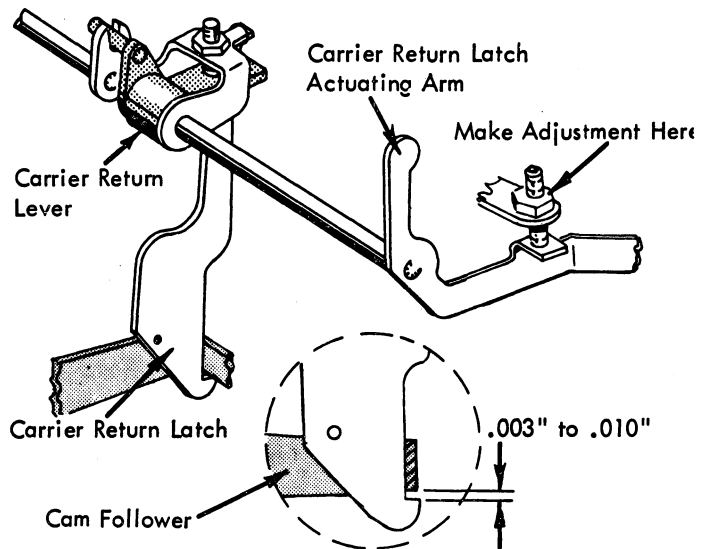

FIGURE 207. Carrier Return Latch Height (15 Inch Machine)
- c. **Carrier Return Latch Actuating Arm Adjusting Screw (latch height)** - With the carrier return cam latched in the rest position, adjust the screw so that the carrier return latch will pass under the cam follower by .003" to .010" (Fig. 207). Maintain a clearance between carrier return latch arm and torque bar.